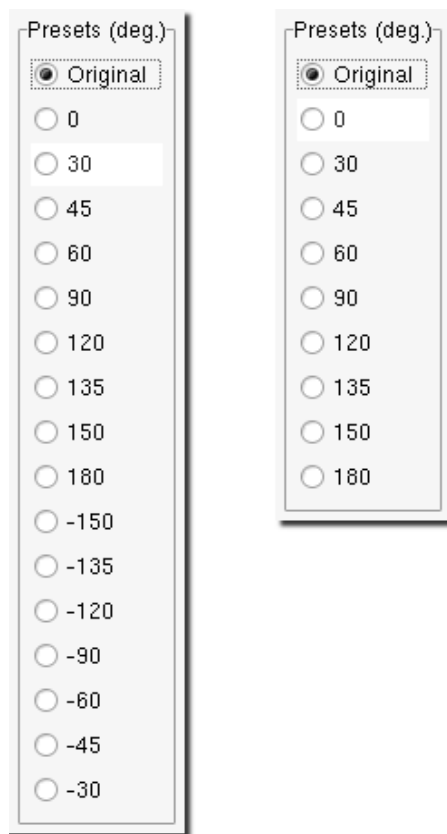

Figure 2.26: Angle Presets window, left image - torsion presets, right image - angle presets
- **Show Angle Presets** toggles the **Angle Presets** window, Figure 2.26. When enabled, the presets window will automatically appear whenever a rotation bond is selected or a second bond is selected with the bond angle tool. Activating any of the preset angles listed will set the torsion about the rotation bond or the bond angle to the selected preset.